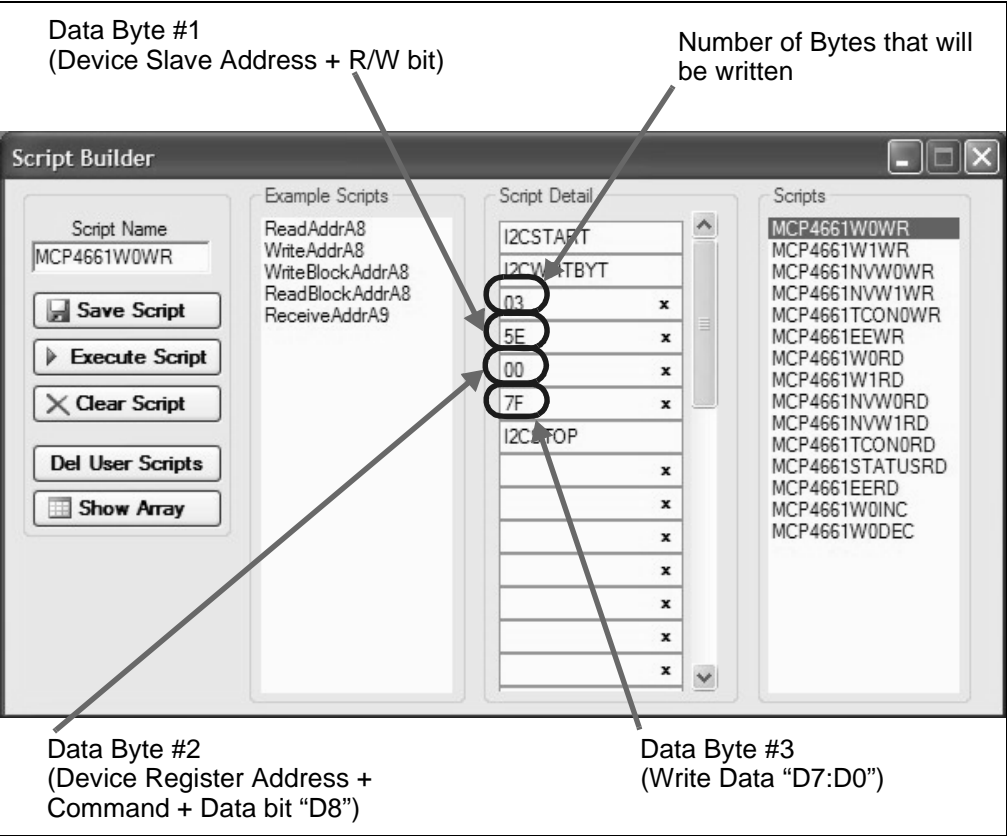
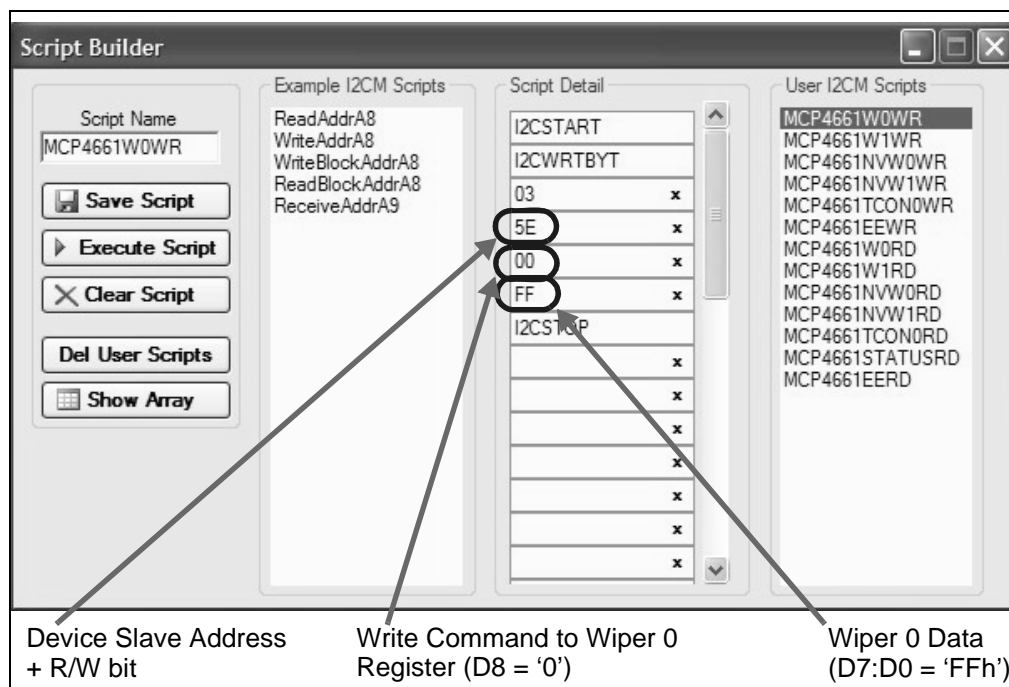

FIGURE 2-13: Example Write Script.
FIGURE 2-15: MCP46XX Write Wiper 0 Script File - Wiper Value = 0FFh.
Double clicking on the MCP4661W0WR User I2CM Script will load the script details. Figure 2-13 shows what the values mean in the Script Details. These values are hex numbers.
9. Double click on the “MCP4661W0WR” script in the “Example I2CM Scripts” column. This loads the Script Detail column (see Figure 2-13).
13. Double click on the “MCP4661W0WR” script in the Example I2CM Scripts column. This loads the Script Detail column (see Figure 2-13). Modify the fourth byte to FF (see Figure 2-15).
17. Double click on the “MCP4661W0WR” script in the Example I2CM Scripts column. This loads the Script Detail column (see Figure 2-13). Modify the fourth byte to 3F (see Figure 2-15).